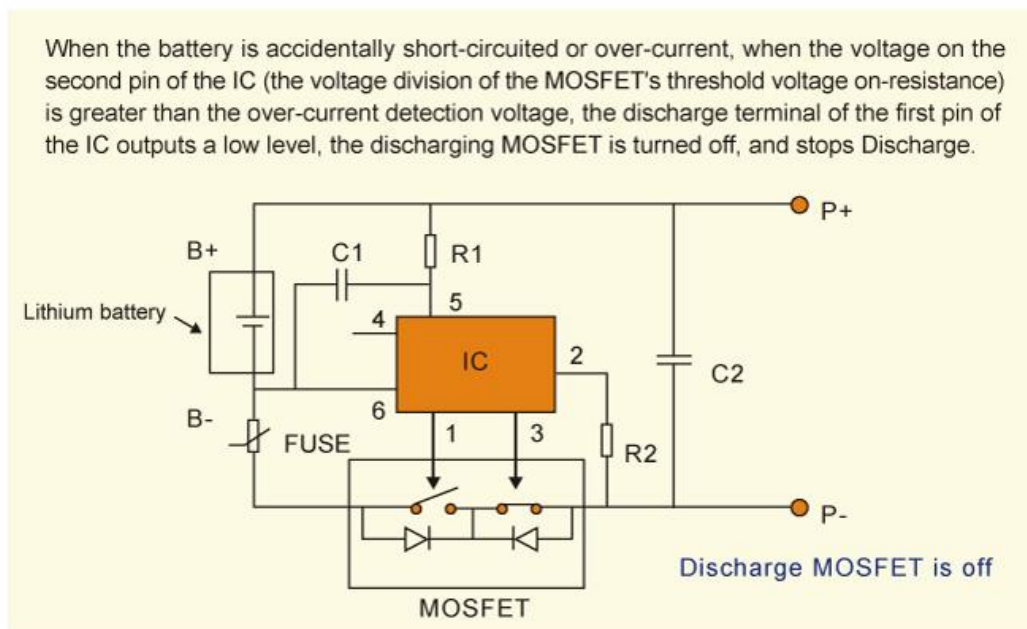

Figure 2.1 BMS internal architecture
**2.2 Short-circuit protection (SHORT) test method : Power supply (PS) & LOAD connection is shown in Figure 2.1, LOAD test procedure is shown in Figure 2.3.**